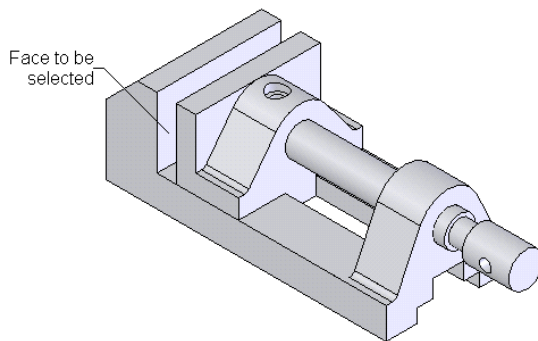

Figure 10-66 Face to be selected
- After analyzing the assembly, apply the required mates to constrain all the degrees of freedom, refer to Figures 10-66 and 10-67.
12. Invoke the **Mate PropertyManager** and select the faces shown in Figures 10-66 and 10-67.